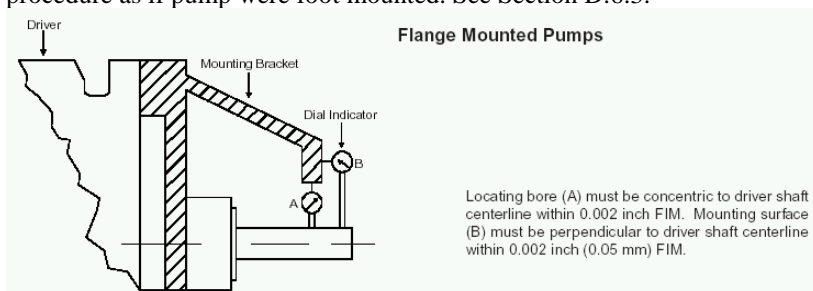

Figure 5 -Alignment of Flange Mounted Pumps
3.7.4 Aligning Flange Mounted Pumps and Drivers - See Figure 5